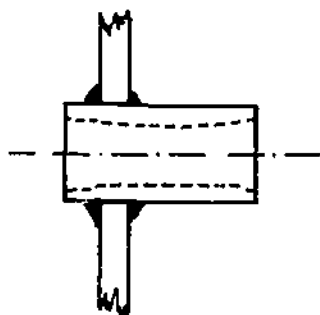

Figure 12-31. Tank Shell Fitting
- Step 4. Never insert a coupling half way in, as the shrinkage caused by the welding will not permit a full thread to be made when a pipe or fitting is screwed in (Figure 12-31).